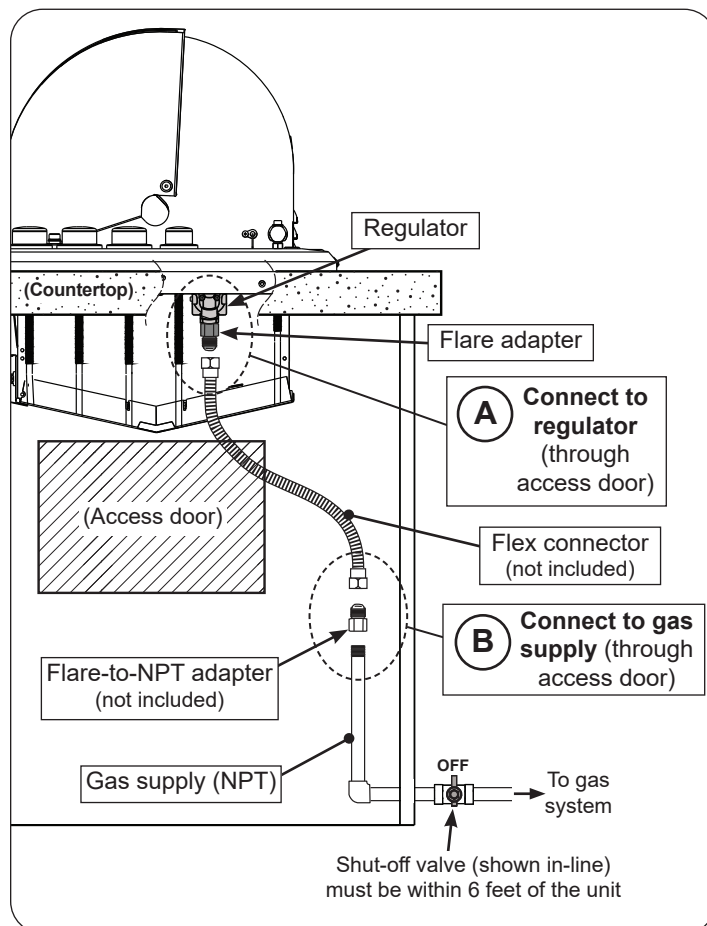

Fig. 24-1 Household L.P. & Nat. gas diagram
2. Locate the regulator found on the right side of the unit. Connect a flex connector (not included) to the 1/2" flare adapter found on the regulator. Support the regulator adapter with a wrench to avoid applying excessive torque to the assembly while tightening. Do not use pipe compound on the flare fitting. See Fig. 24-1, A.
3. Route the other end of the flex connector to the gas supply (see Fig. 24-1, B).